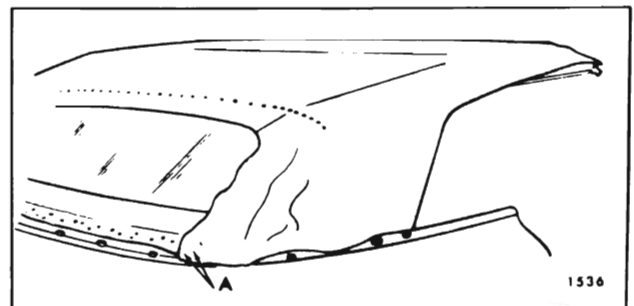

Fig. 13-41 — Tacking Top Material
18. Using previously marked lines (ends of trim stick) as locating reference, tack top material to rear and rear quarter trim sticks. "A" in Figure 13-41 shows top material installed to rear trim stick at inboard edge.